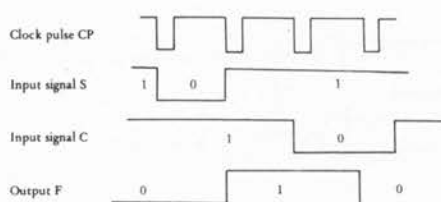

Fig. 2-11 Wave Forms
In Fig. 2-10(c), resistor (R) and condenser (C) are attached to the flip-flop of Fig. 2-10(a) to set or reset the flip-flop by synchronizing with the fall time of clock pulse (CP). Truth Table Fig. 2-10(d) shows when the signal S or C is "0" or "1" synchronizing with the CP fall time which delays the setting or resetting of flip-flop by 1-bit time. In order to stabilize this flip-flop, it is necessary to have the clock pulse (CP) smaller than S or C signal and have the fall time under 50ns. The wave forms of each point are shown in Fig. 2-11.